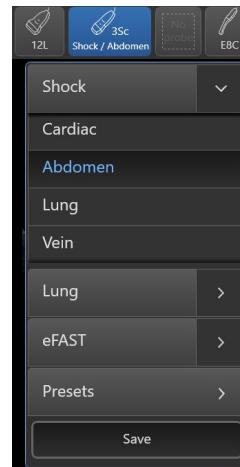

Figure 7-13. Application and assessment selection
3. Choose the assessment (Abdomen/Heart/Venous), either from the menu shown in Figure 7-13, or from the shortcut menu shown in Figure 7-14.